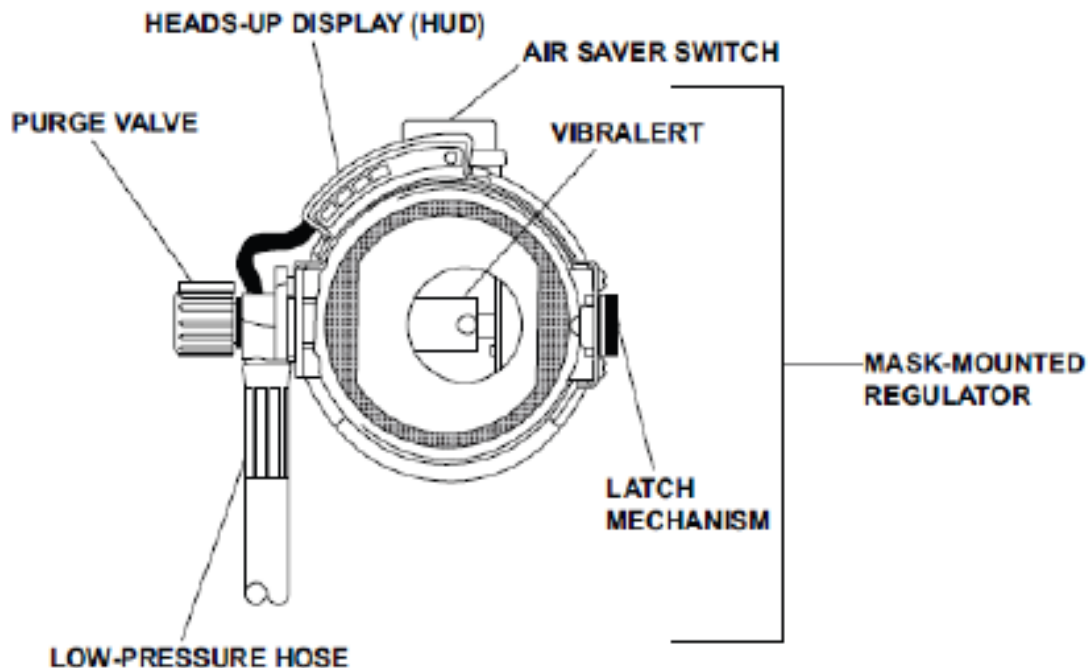

Figure 551-88L-2049_18
(1) Check the remote pressure indicator, (refer to Figure 551-88L-2049_17).